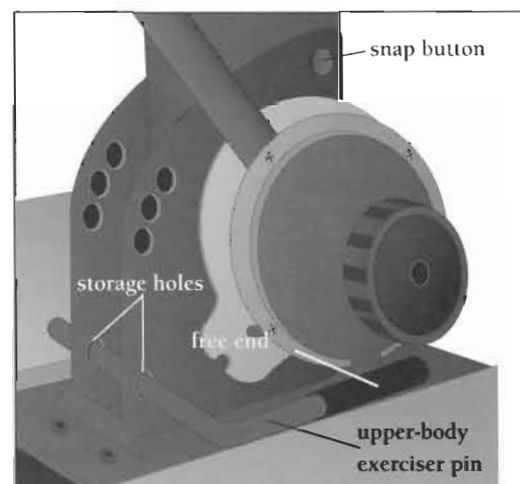

Figure 6
3. Insert the upper-body exerciser pin into the storage holes at the bottom of the upright tube (Figure 6). Be sure the free end of the pin extends toward the front of the base.